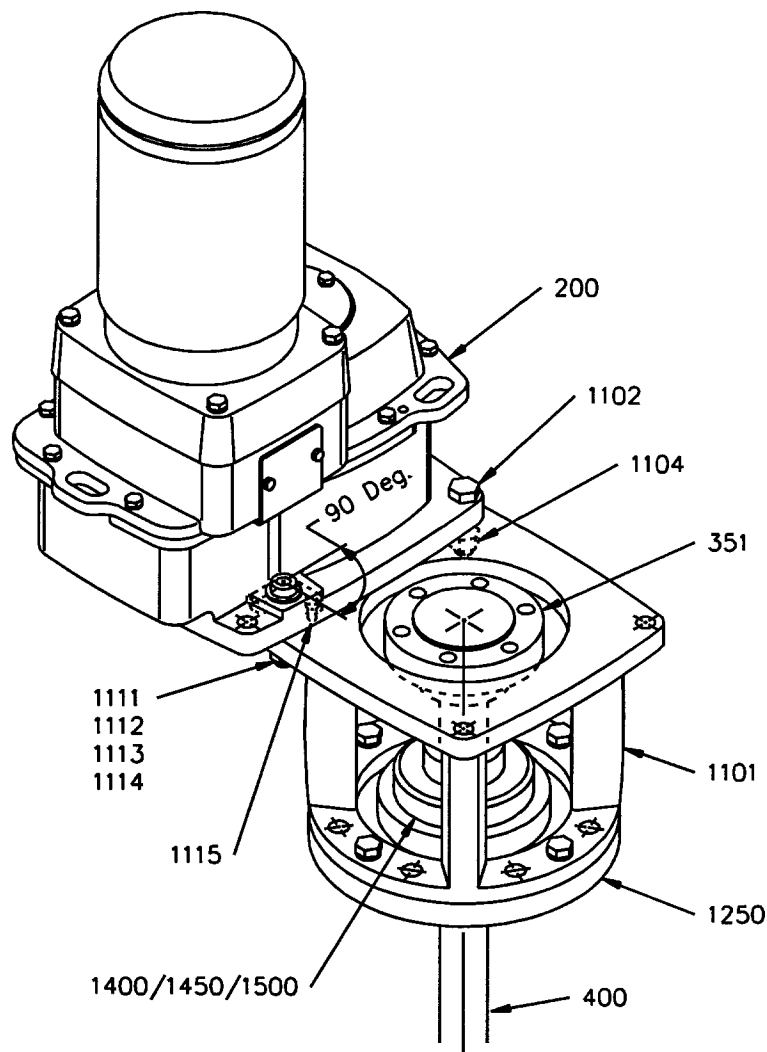

Figure 24: Gear Drive Pivot Feature
7. Remove gear drive mounting bolts [1102]. **CAUTION:** Do not remove pivot shoulder bolt [1111]. Rotate the gear drive 90 degrees counter-clockwise. See Figure 24, page 59.
7. Remove gear drive mounting bolts [1102]. *CAUTION: Do not remove pivot shoulder bolt [1111].* Rotate the gear drive 90 degrees counter-clockwise. See Figure 24, page 59.
7. Remove gear drive mounting bolts [1102]. *CAUTION: Do not remove pivot shoulder bolt [1111].* Rotate the gear drive 90 degrees counter-clockwise. Refer to *Figure 24, page 59*.